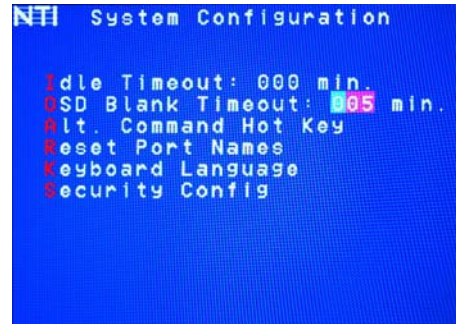

Figure 35- Change the value of OSD Blank Timeout
1. press <O> from the System Configuration menu to display the edit field around the value (see Figure 35)